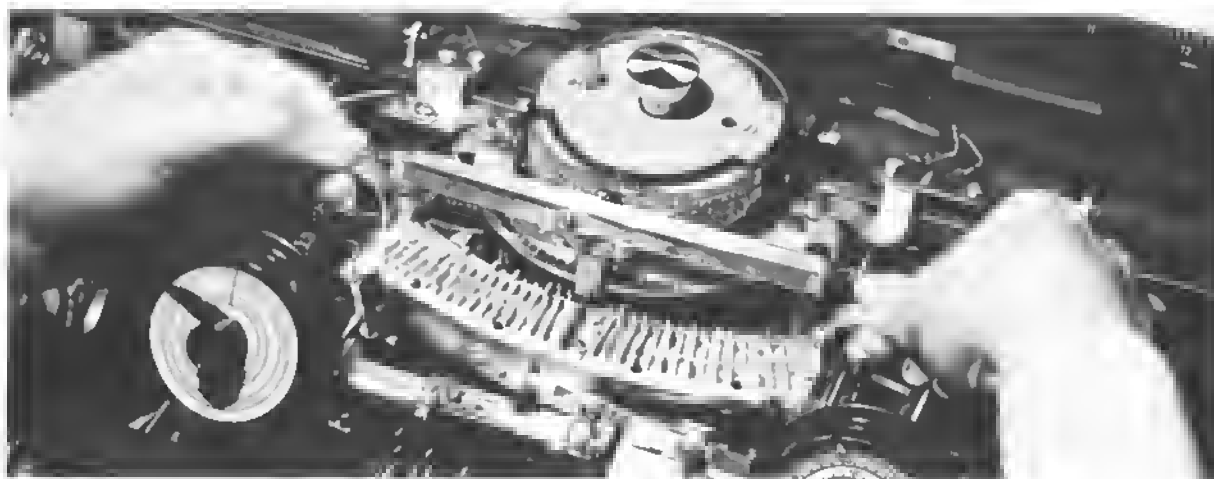

Figure 61
4. Lift out coder, using the curved brackets on each side of coder (Figure 61).